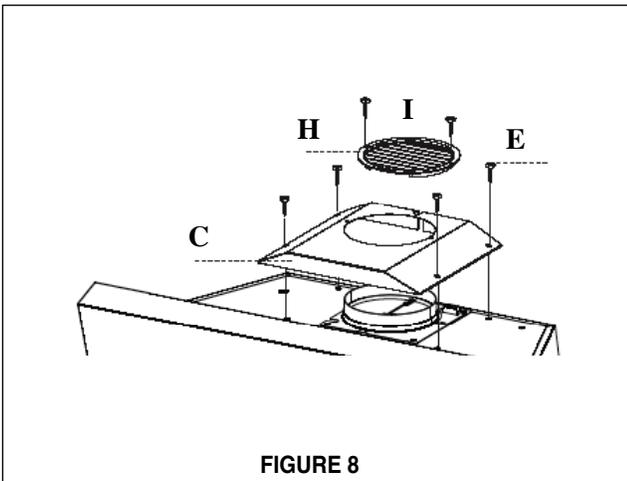

FIGURE 8
1. Screw the ductless grille to the top duct with 4 screws (part C using the E screws in **FIGURE 8**).
2. Attach the grille cover (H in **FIGURE 8**) using the cover screws (I in **FIGURE 8**).